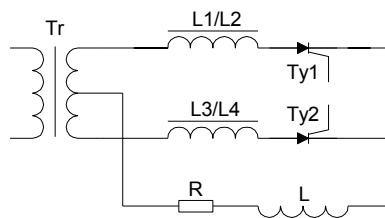

Fig. 18.4
18.3.3 Commutation process in controllable full-wave thyristor rectifier tests. The load is resistive (R) and resistance-inductive (LR). The scheme is shown in Fig. 18.4